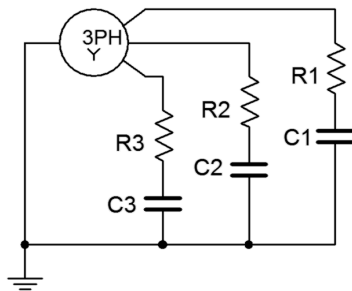

Figure 9.10
18. A 3-phase Y connected generator feeds a Y connected load consisting of 3 legs of $150\ \Omega$ in series with $-j20\ \Omega$ of capacitive reactance as shown in Figure 9.10. If the generator phase voltage is 120 volts, find the line voltage, the voltage across each load leg, the line current, and the apparent and real powers drawn by the load.